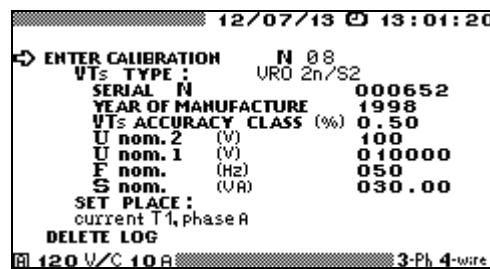

Fig. 4.31. "VT profile" window
The "**VT profile**" window enables you to specify various data on the VT under test (Fig. 4.31), including:
To change any of the values, put the cursor opposite to the selected position (Fig. 4.31) and press “ENT”. Enter required values using numeric keypad and ◀, ▶ keys. Press “ENT” to save the new value in the memory or press “ESC” to reject.
- n Nominal apparent power of the VT under test specified in the "VT profile" window (Fig. 4.31), VA;
- n Secondary nominal voltage of the VT under test specified in the "VT profile" window (Fig. 4.31), VA;